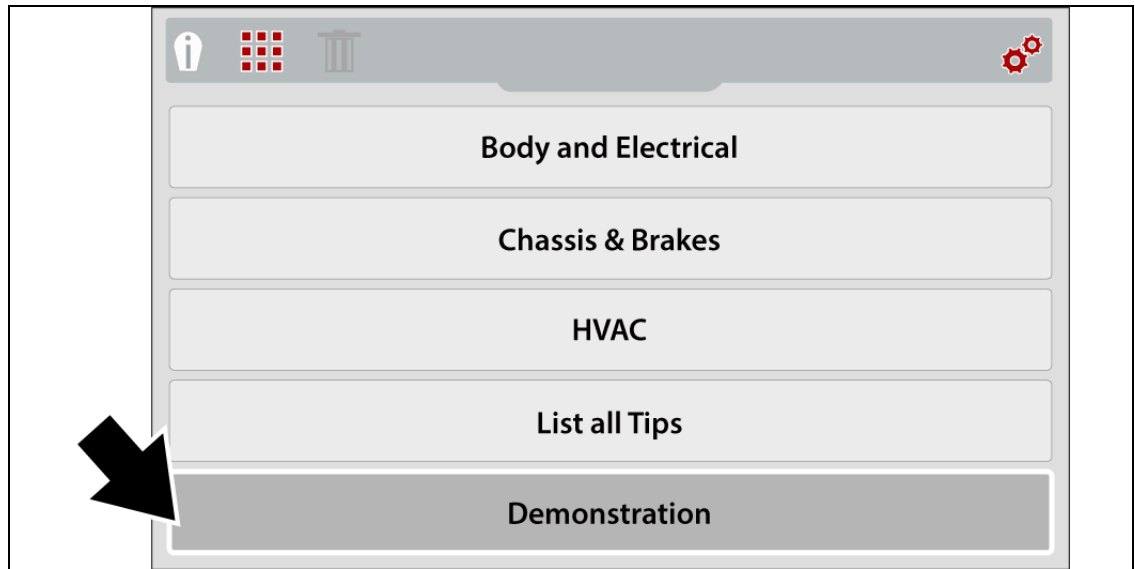

Figure 7-5
1. From the expert tips menu, select **Demonstration** (Figure 7-5). See Expert Tips on page 37 for navigation to the expert tips menu.